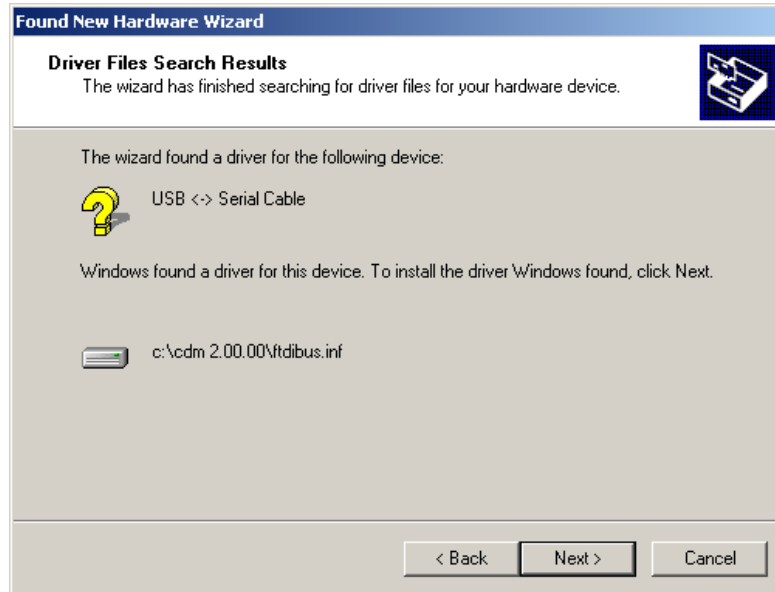

Figure 4. Driver Found Window
7. At the next "Found New Hardware Wizard" window (Figure 4), check the box next to "CD-ROM drives" and uncheck all others. Click next.
- Once Windows has found the required .INF driver file (Figure 4), click next to proceed.